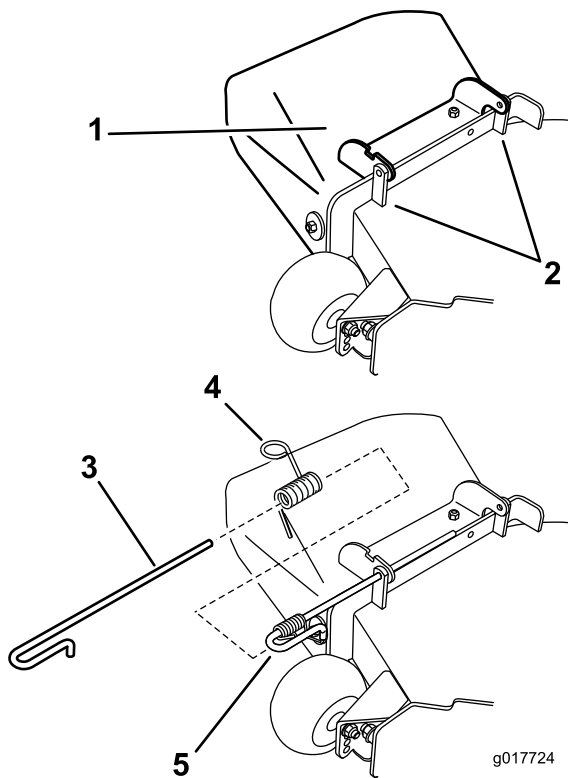

Figure 76
1. Disengage the spring from the notch in the deflector bracket and slide the rod out of the welded deck brackets, spring, and discharge deflector (Figure 76). Remove the damaged or worn discharge deflector.
2. Position the new discharge deflector with the bracket ends between the welded brackets on the deck as shown in Figure 76.